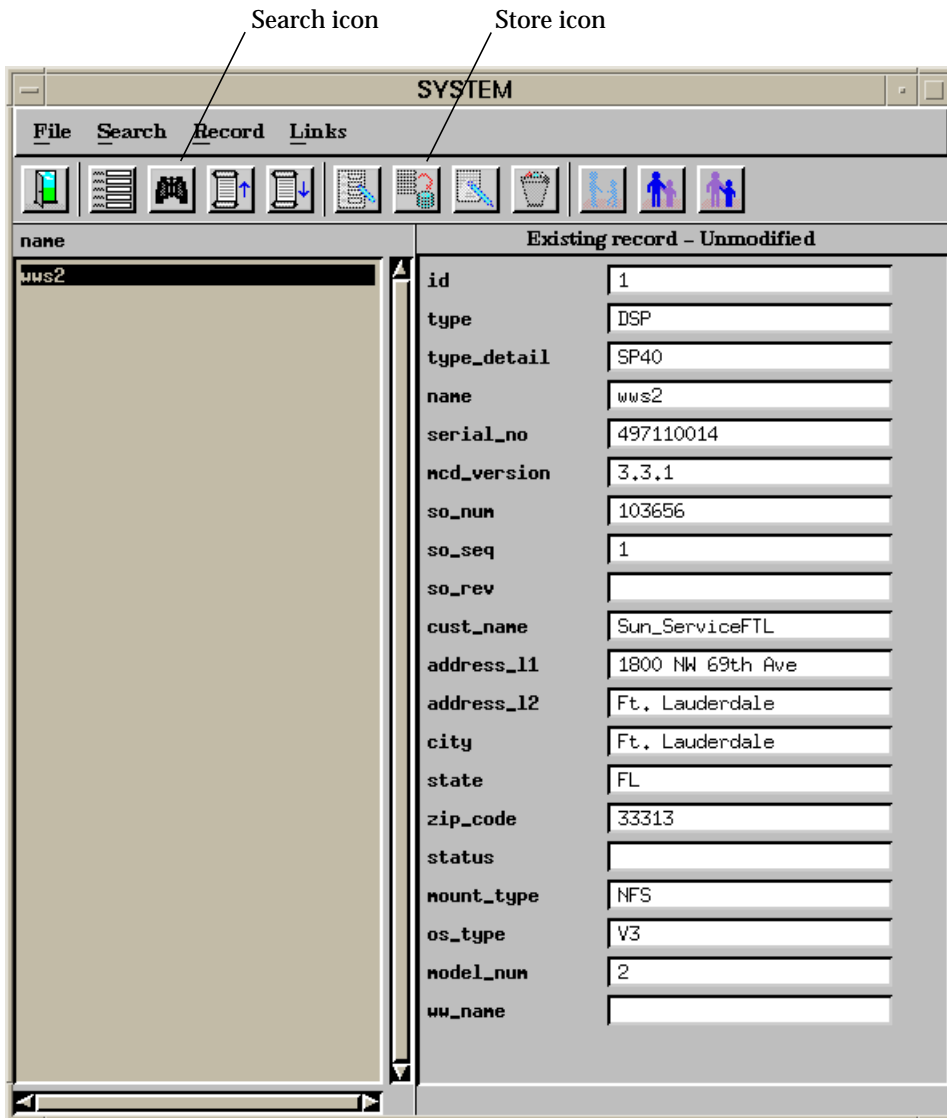

FIGURE 6-9 MCD System window
6. When you have typed in the customer information, save it to the System Console hard disk by clicking on the Store icon at the top of the System window. See FIGURE 6-9.